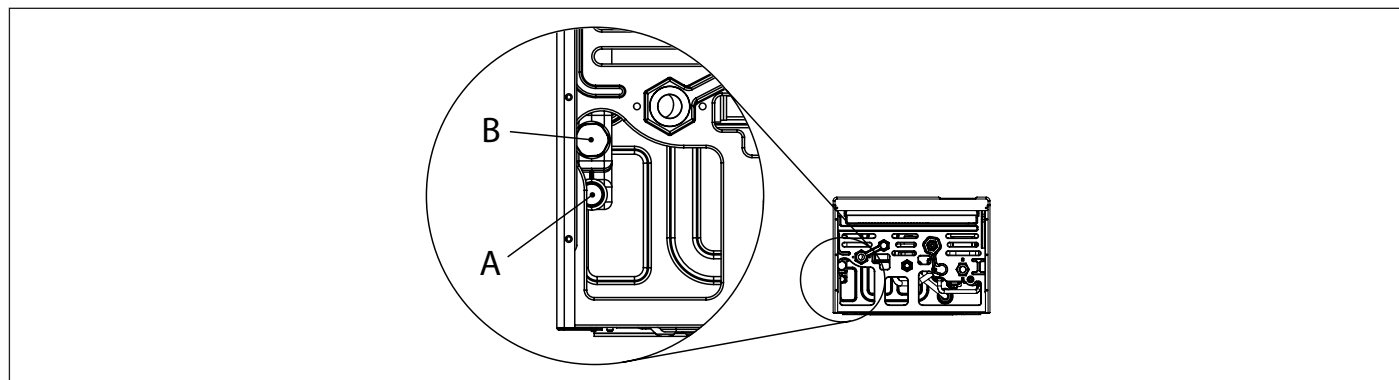

Fig. 18 Condensate drain
Condensate drain system must be connected to specific fitting (A) in the boiler (see Fig. 18 Condensate drain).